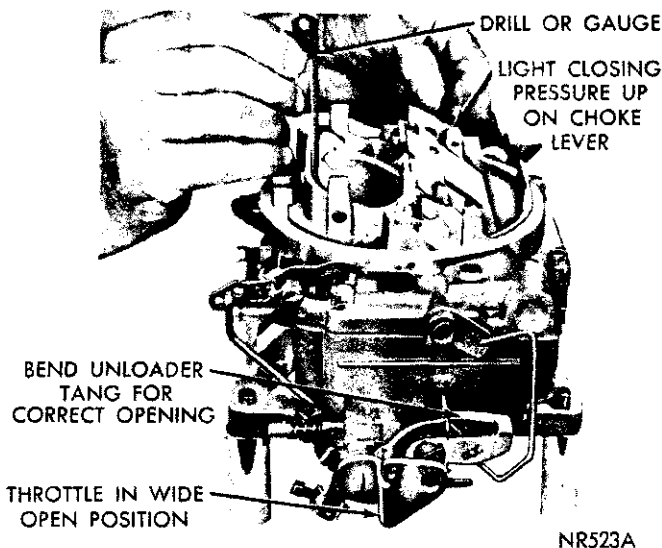

Fig. 15—Checking Choke Unloader (Wide Open Kick)
(1) Hold throttle valves in wide open position. Insert specified drill (refer to Specifications), between upper edge of choke valve and inner wall of air horn. (Fig. 15).
(2) With a finger lightly pressing against choke lever, a slight drag should be felt as drill is being withdrawn. If an adjustment is necessary, bend unloader tang on fast idle cam, using Tool T-109-22, until correct opening has been obtained. (Fig. 15).